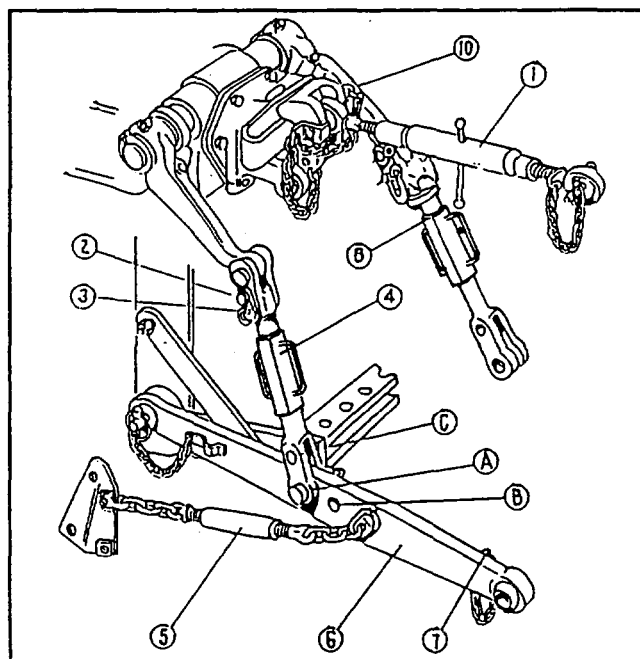

Fig. 18 - Hydraulic Lift, Three Point Hitch
- Move the hydraulic lift mode lever to its most downward position. (See Fig. 18)
- B. Move the control lever to its' lowest position (See Fig. 18)